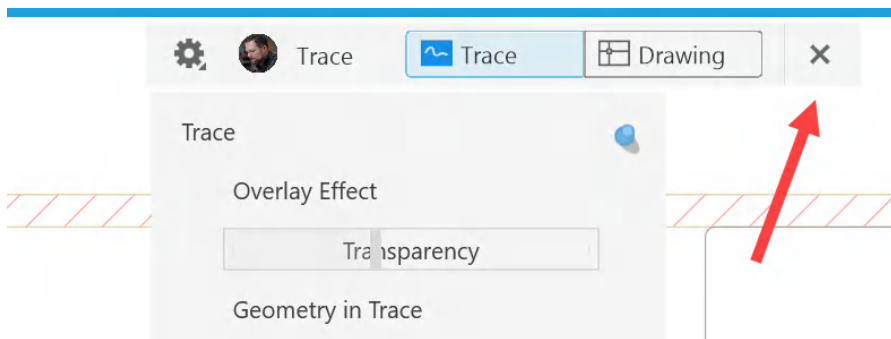

Figure 16.36: Closing the trace toolbar with the X
8. You must also exit trace mode before saving and closing the drawing. To do so, click on the **X** at the end of the **Trace** toolbar, as shown in Figure 16.36.